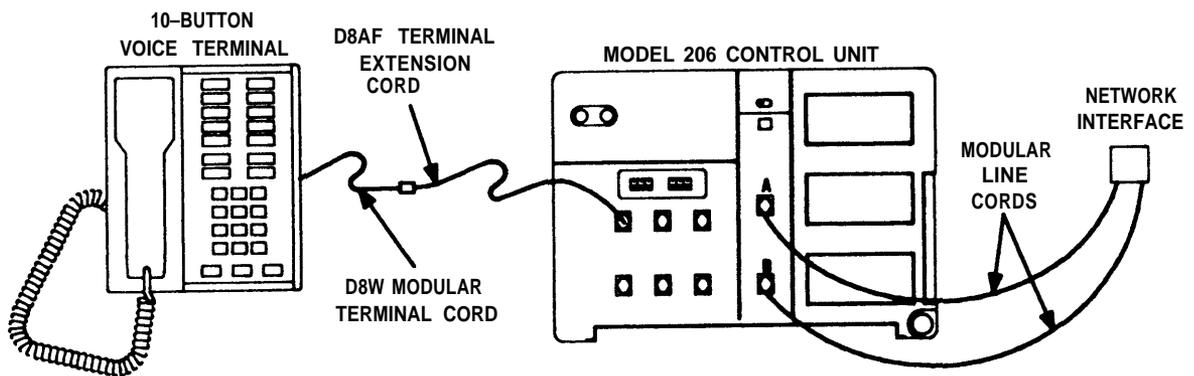

Figure 1
- Check the floor plan that you prepared when you ordered your system, to make sure that it agrees with the layout of the installation location. Figure 1 show a typical system.